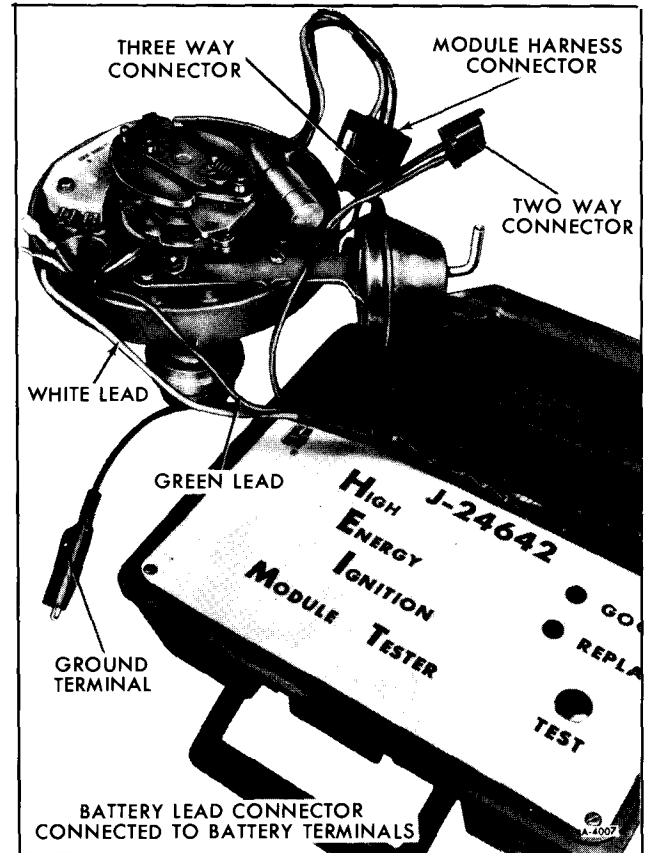

Figure 57—Test No. 2 Using Tool J-24642
8. If red light on module tester J-24642 stays on, either the module or the pickup coil is defective. To determine which is defective, continue with Test No. 2 (figure 57).
a. With distributor cap removed and J-24642 module tester three-way connector and battery leads connected as in Test No. 1 connect green and white leads to module (figure 57).